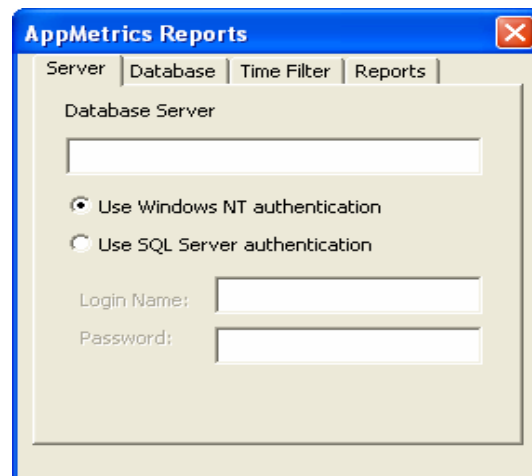

Figure 1
4. First input the SQL Server instance name of your Instructor's AppMetrics Manager in the **AppMetrics Manager Machine** field of the **Manager** tab (see Figure 1).